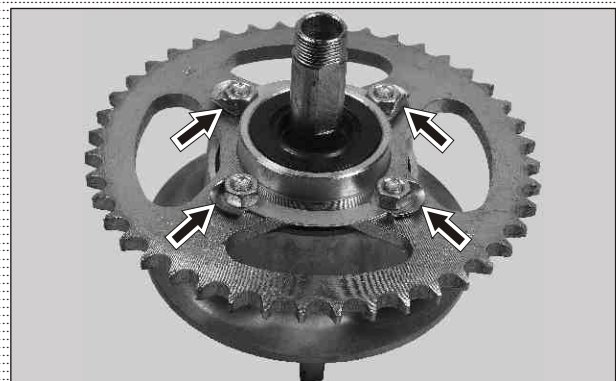

Fig. 6.81
- Flatten the washer rear sprocket. (Fig. 6.81)